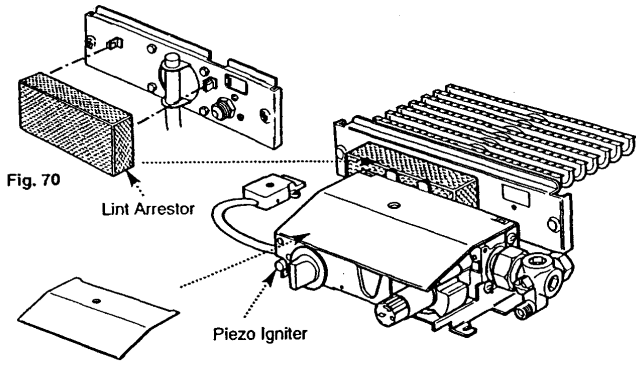

Fig. 70
2. Remove the lint arrestor by pulling forward (Fig. 70).